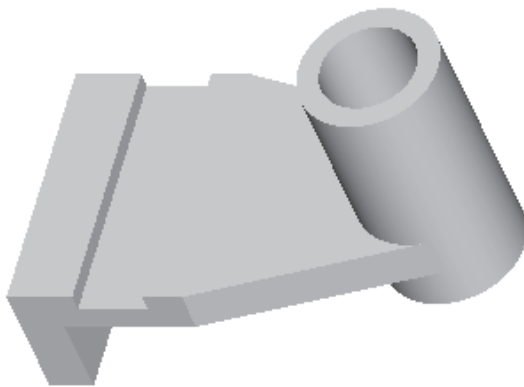

Figure 4-92 Complete model for Tutorial 3
7. Now, choose the **OK** button from the **PROTRUSION** dialog box to confirm the feature creation and to exit the dialog box. The default trimetric view of the complete model is shown in Figure 4-92.